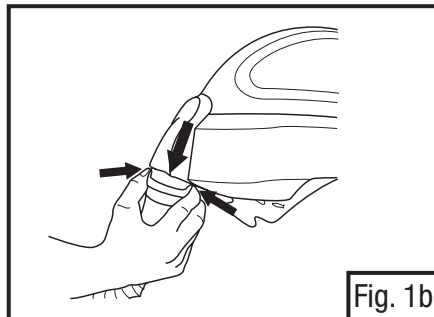

Fig. 1b
- To disconnect the breathing tube, compress the tabs on the end of the QRS to release and pull back to remove (Fig. 1b).